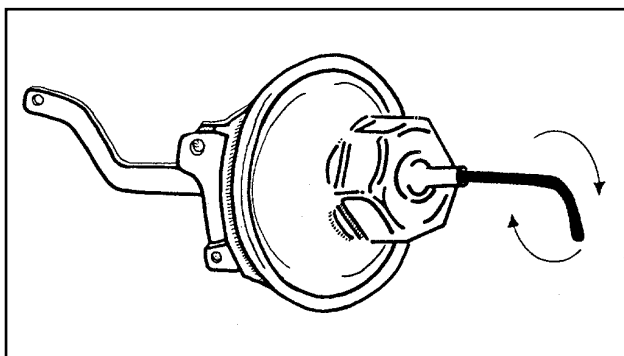

FIG. 17
23. Check for full clockwise adjustment and connect the adjustable vacuum advance unit to the manifold vacuum source. (FIG. 17)